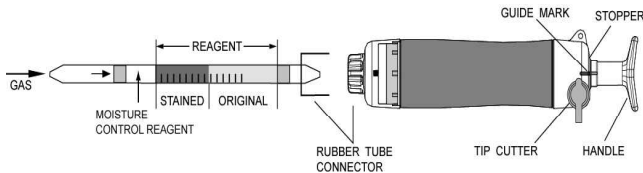

Fig.1
- ② Insert the detector tube into the aspirating pump securely as shown in Fig.1. (Arrow mark shall point to the pump.)
- ③ Align the guide marks on the shaft and stopper of the aspirating pump.
- ④ Pull the pump handle at a full stroke until it locks and wait for 1 minute or until the completion of sampling is confirmed with the flow indicator of the pump (See descriptions about the flow indicator in the instruction manual of the pump).
- ⑤ On completion of sampling, read the scale at the maximum point of the stained layer.
- ⑥ When the concentrations are below the scale range, 5 pump strokes can be used to determine these lower concentrations.
- ⑦ When the concentrations are over the scale range, a 1/2 pump stroke can be used to determine these higher concentrations.